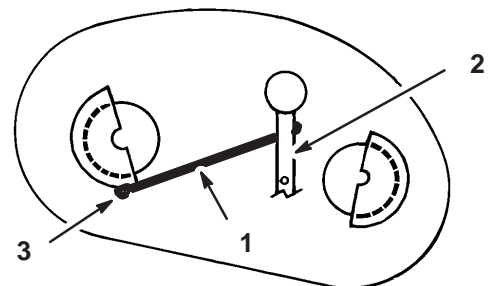

Figure 2
5. Install spring between idler arm and bolt at belt cover (Fig. 2).